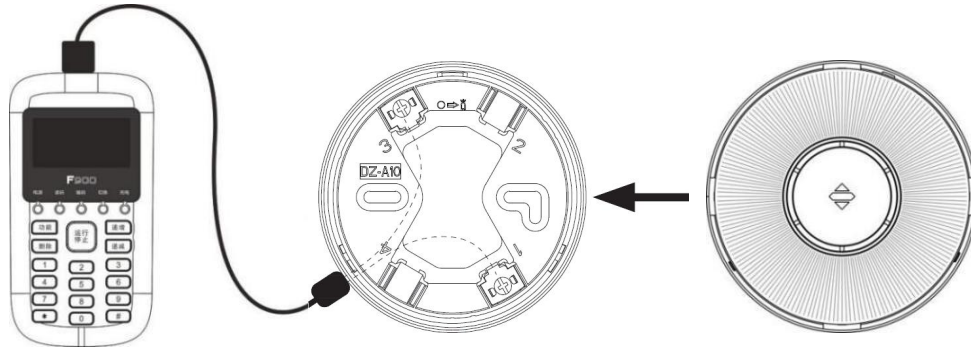

Fig.4
**5.3** Coding address: As shown in Fig.4, connect the audible and visual alarm through the matching base on the encoder (the matching base for encoding is DZ-A10), L1 and L2 adopt non-polar connection, set the encoder as the coding function, compile the correct address code, press the "Run" button to complete the address code setting. (Note: Please refer to the encoder manual for coding details)